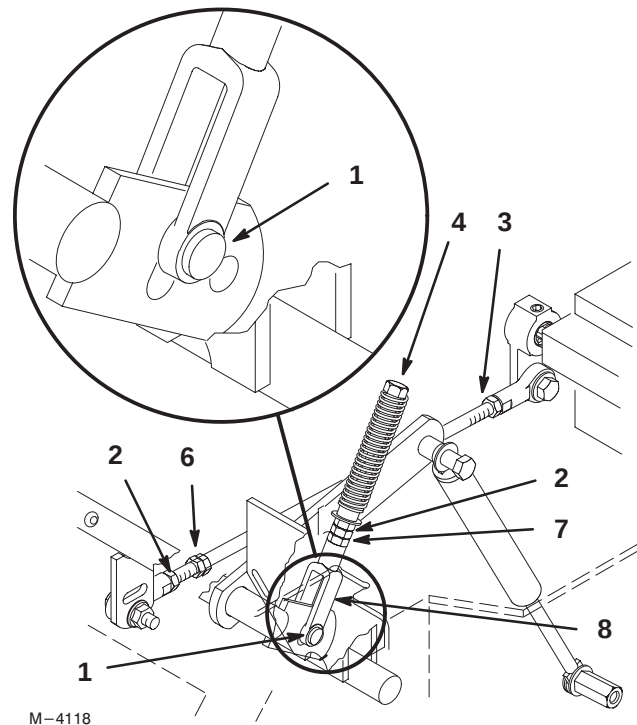

Figure 50
2. Begin with either the left or right motion control lever. Move lever to the neutral (but not locked) position and pull lever back until the clevis pin (on arm below pivot shaft) contacts the end of the slot (just beginning to put pressure on spring) (Fig. 50).
5. Apply slight rearward pressure on the motion control lever, turn the head of the adjustment bolt in the appropriate direction until lever is centered in neutral lock position (keeping rearward pressure on the lever will keep the pin at the end of the slot and allow the adjustment bolt to move the lever to the appropriate position (Fig. 50).
4. If adjustment is needed, loosen the nut against the yoke (Fig. 50).
4. Loosen locknut at ball joint on pump control rod (Fig. 50).
6. Adjust pump rod length by rotating double nuts on rod, in the appropriate direction, until wheel is still or slightly creeps in reverse (Fig. 50).